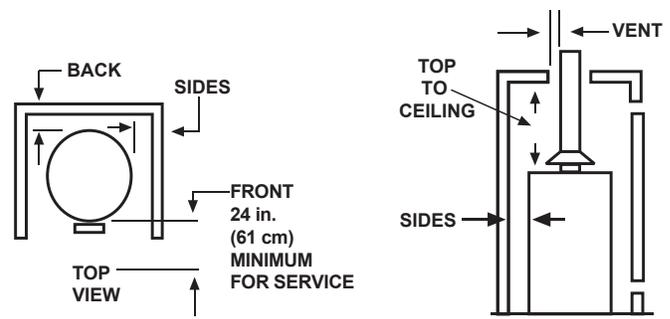

FIGURE 4
- Figure 4 may be used as a reference guide to locate the specific clearance locations. A minimum of 610mm (24 inches) of front clearance should be provided for inspection and service.